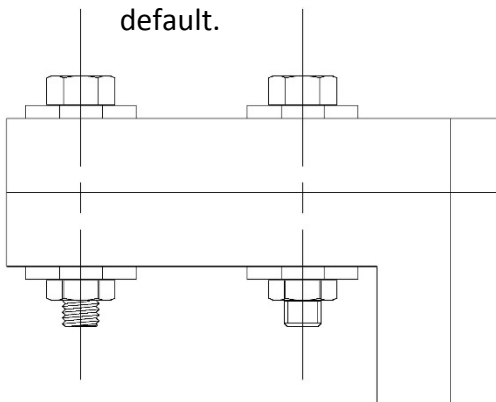

Figure 5-11
- b. In this example, we will change the Thread Display to Detailed as shown in Figure 5-11.